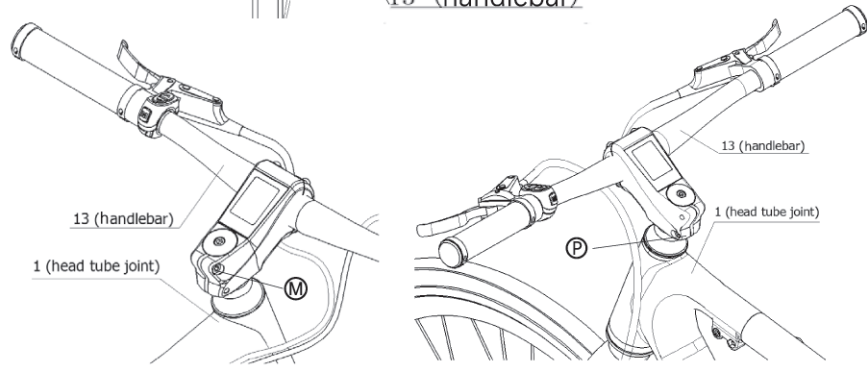

Figure 52-2.
b. Recurrently tighten the two screws \textcircled{M} \rightarrow \textcircled{P} on Part 13 with a 5 mm Allen key, as shown in Figure 52-2. Based on experience, at least 5 **cycles** are required.